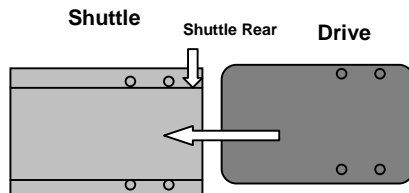

Figure 1. Drive Shuttle Side View.
4. Place the shuttle on its side with the four sink hole slots facing upwards (see **Figure.1**) Insert the drive in the disk shuttle.